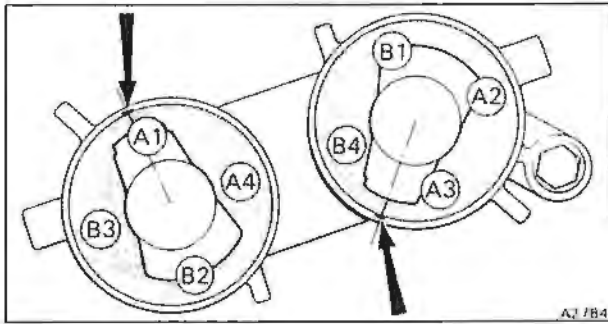

Fig. B4-60 Position of distributor rotor arms
5. Free the ignition coil high tension (HT) lead from the centre of each distributor cap. This can be achieved by firmly grasping the cable connector where it enters the distributor cap and whilst twisting the connector carefully pull it upwards. Do not pull the cable.
7. Turn the engine in the direction of rotation until the distributor rotor arms point in the direction shown in figure B4-60. Also ensure that the timing pointer is aligned with the TDC mark on the front damper assembly.
Ensure that when the distributor assembly is fitted, the centre of the rotor arms align with the timing marks (see fig. B4-60) at TDC, with A1 cylinder on its firing stroke.